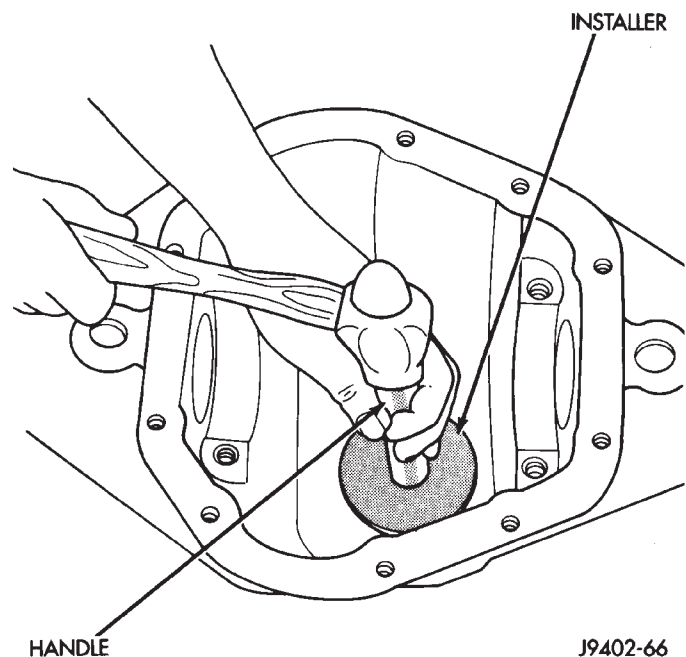
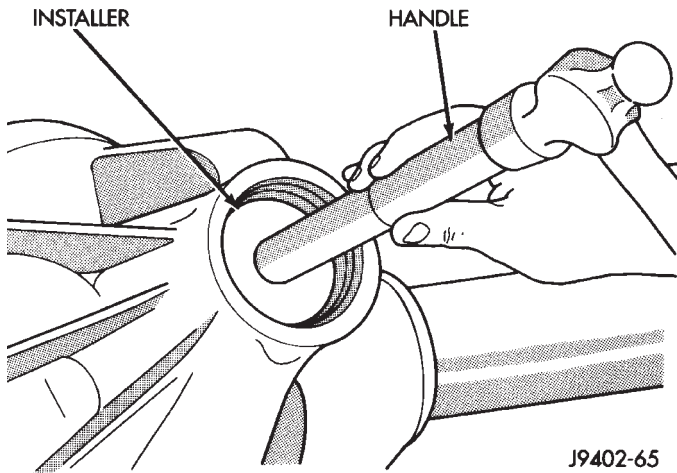
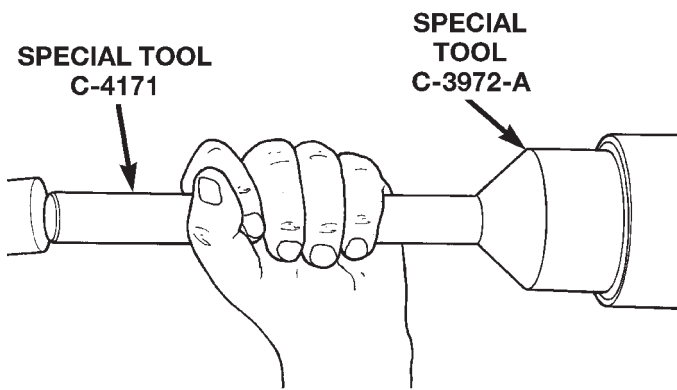

Fig. 52 Pinion Rear Bearing Cup Installation
Fig. 53 Pinion Front Bearing Cup Installation
Fig. 54 Pinion Seal Installation
(1) Apply Mopar® Door Ease, or equivalent, stick lubricant to outside surface of bearing cup.
(2) Install the pinion rear bearing cup with Installer D-146 and Driver Handle C-4171 (Fig. 52). Ensure cup is correctly seated.
(3) Apply Mopar® Door Ease, or equivalent, stick lubricant to outside surface of bearing cup.
(4) Install the pinion front bearing cup with Installer D-130 and Handle C-4171 (Fig. 53).
(5) Install pinion front bearing, and oil slinger, if equipped.
(6) Apply a light coating of gear lubricant on the lip of pinion seal. Install seal with Installer C-3972-A and Handle C-4171 (Fig. 54).